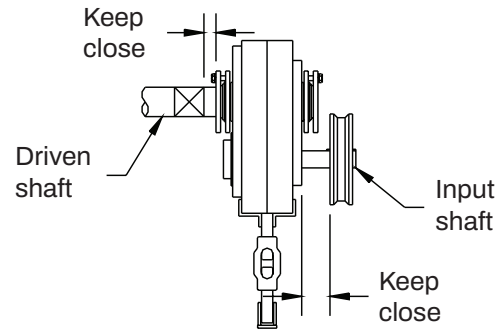

Figure 2 - Reducer and Sheave Installation
3. Install sheave on input shaft as close to reducer as practical (see Figure 2).